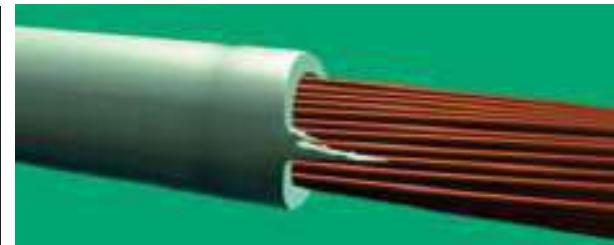

Figure 172
b. Any uneven, ragged pieces (frays, tails, tags) (Figure 172) are no greater than 50% of the wire diameter or 0.039 inch (1 mm), whichever is greater.